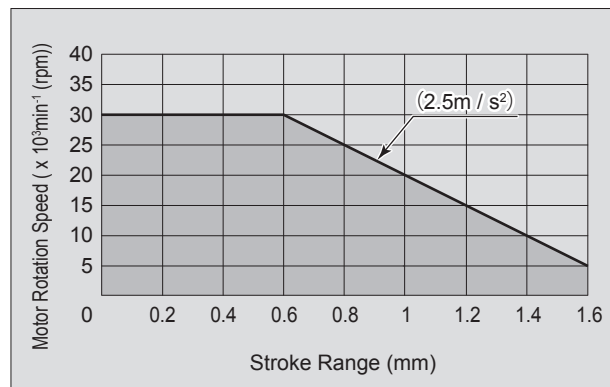

Fig. 1
- ③ To ensure your safety, SWING - LUSTER should be maintained as explained in this Operation Manual.
- ④ Do not use SWING - LUSTER at vibration levels of 2.5 m/s^2 and higher. Select the combination of Motor Rotation Speed and Stroke Range so that the vibration level stays in the shaded area as shown on the chart lower right (Fig. 1).
- ⑤ Do not use SWING - LUSTER with vibration at 2.5 m/s^2 or higher each day for an extended period of time.
- ⑥ If any abnormal vibration occurs stop using SWING - LUSTER immediately and return to NAKANISHI for service.
Maximum Allowable Motor Rotation Speed	Less than 30,000min ⁻¹ (rpm) (Refer to Fig. 1)
Vibration Level	Use the Attachment less than 2.5m / s ² (Refer to Fig. 1)